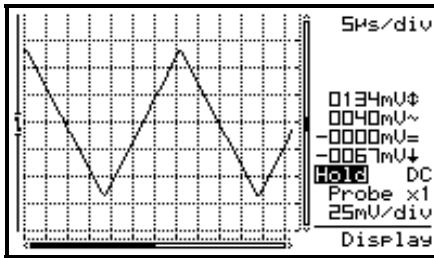

Fig 12
- A **full grid** divides the screen into reference lines.(Fig. 12)